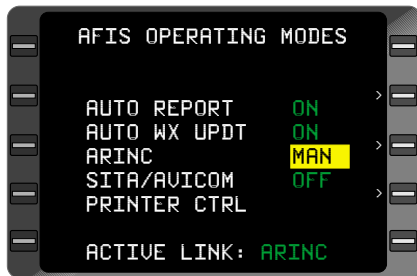

Figure 7-121
6. **ENTER** Key - DEPRESS to select **MAN** or **OFF** mode. (Figure 7-121)